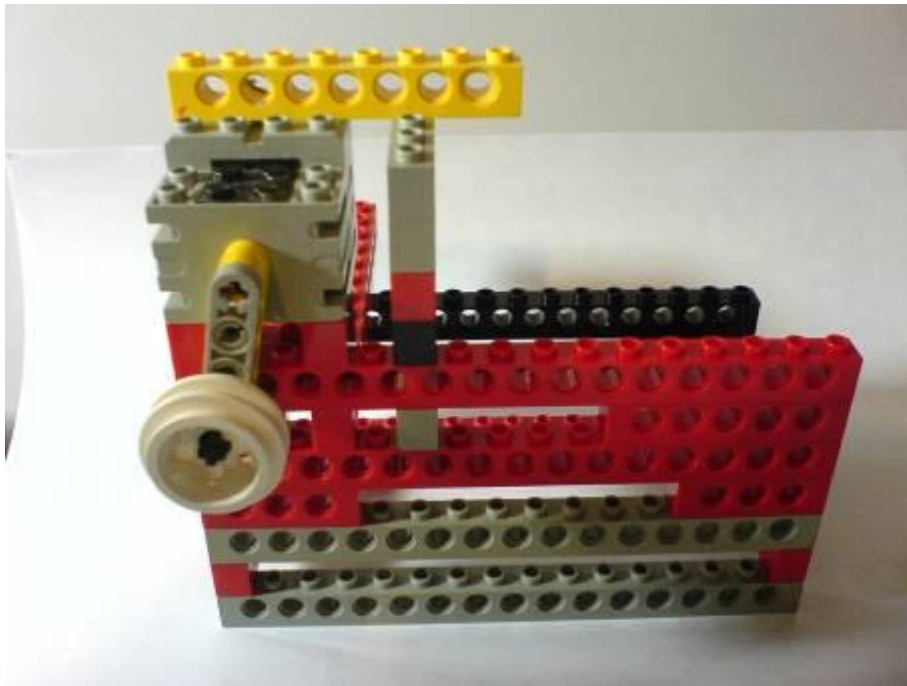

Figure 4
1. Build a base for motor0 out of Lego® bricks, such as the one in Figure 4
2. Attach a Lego® arm to the motor shaft as shown below in Figure 4